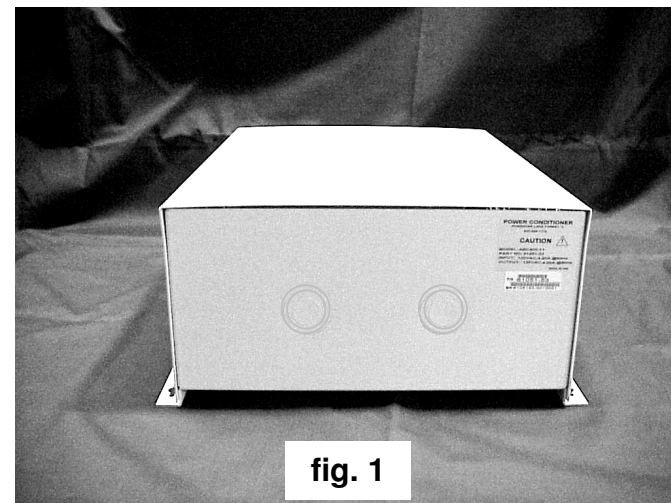

fig. 1
3. Using a pin punch, knock out the correct sized conduit holes located on the rear of the unit. See fig. 1